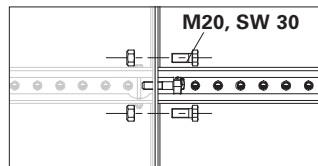

Fig. D1.04
2. Install anchors at the same height as the rows of holes, as close as possible to the middle of the column. (Fig. D1.04)